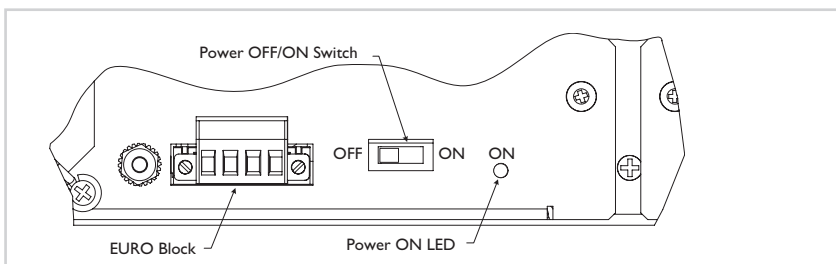

Figure 4: Power Supply Power Rear View
1. Slide the power supply ON/OFF switch to OFF, as shown in Figure 4.